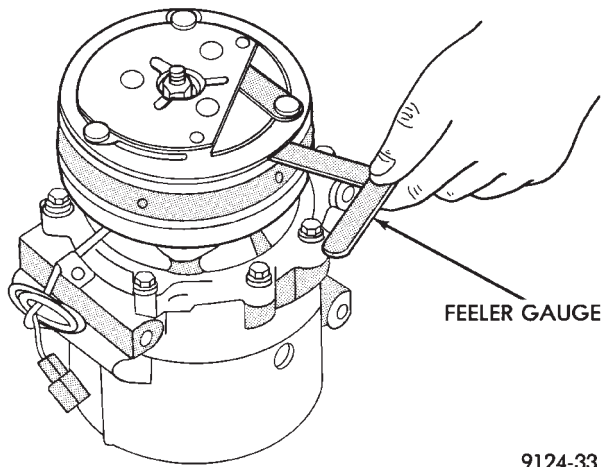

Fig. 4 Measuring Air Gap
(8) With the front clutch plate assembly tight against the shims, measure the air gap between armature plate and rotor-pulley face with feeler gauges (Fig. 4). The air gap should be between 0.35 and 0.65 mm (0.013 and 0.025 inch). If proper air gap is not obtained, add or subtract shims until desired air gap is obtained.